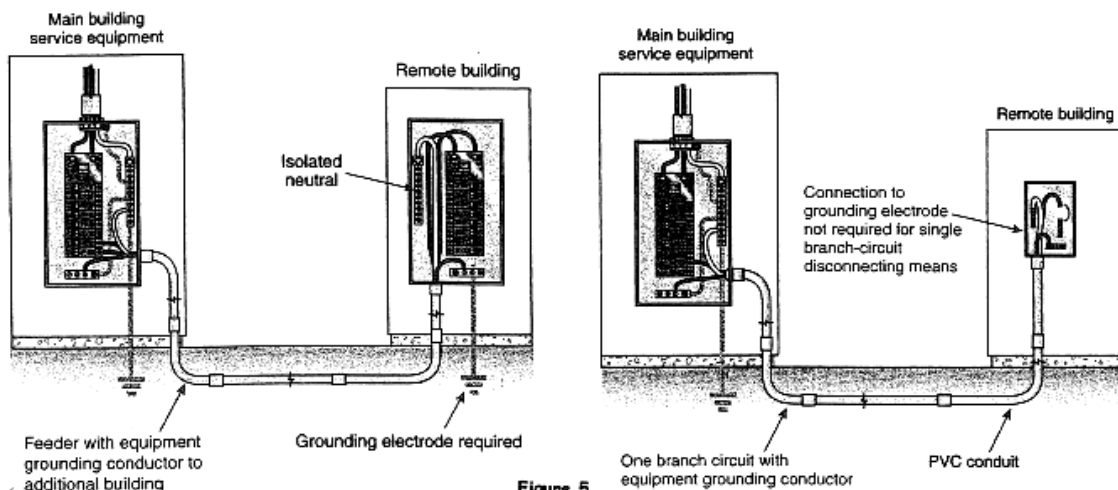

Figure 5
1. **NEC 225.31 NEC 230.70 (A).** Requires each building or other structure served be provided with a disconnecting means. The disconnecting means is permitted either inside or outside the building.
2. **SPS. 316.230 (3) (b).** “8 Foot Rule” Raceways containing service conductors or cables, or service entrance cable not contained within a raceway, shall not extend longer than 8 feet into a building to the service disconnect or the first service disconnect of a group of disconnects. .
5. **NEC 230.70 (B)(C).** Panelboard labeled suitable for use as a service disconnect and securely fastened.
6. **NEC 110.26(A) Required Working Space.** A minimum width of 30 inches or the width of the equipment, whichever is wider. Workspace must allow the door on the equipment to open at least to a 90 degree angle. Working space must be clear to a height of 6.5 feet. A depth of 3 feet shall be maintained in front of the equipment.
8. **NEC 250.58, 250.32 (A).** Two ground rods are required at separate buildings if more than one branch circuit and properly sized per NEC 250.66.
9. **NEC 250.32 (B) (1) (2) (D) (1) (2) (3).** Separating equipment grounding conductor and neutral conductor:
- a. **4 Wire Conductor.** The feeder must include an equipment grounding conductor to the accessory building, separate the neutrals and equipment grounding conductors. Connect grounding electrode conductor at accessory building to feeder disconnect enclosure (equipment grounding bus bar). (Fig. 5)